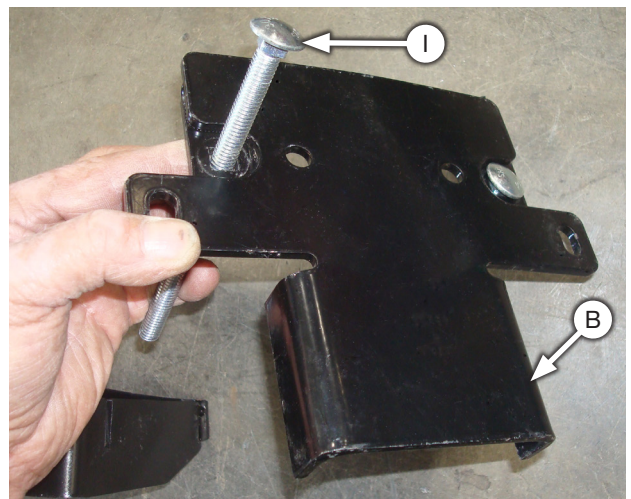

Fig. 10
3. Flip both assemblies' upside down and insert the 3/8" carriage bolts (I) into the lower brackets (B) making sure that they nest down into the pockets (Fig. 10).